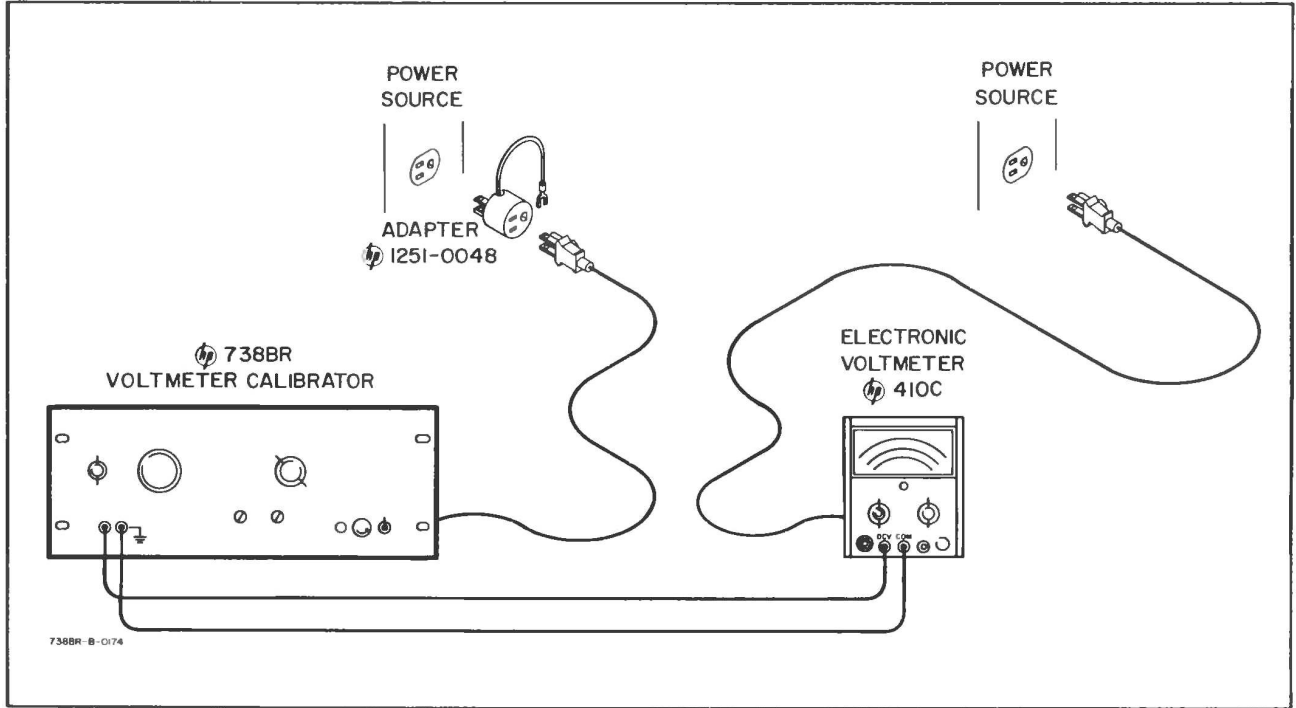

Figure 3-3. Connection for Eliminating Ground Current
the 738BR. The Φ Part Number for this adapter connector is 1251-0048. The instrument under test must be connected to power ground. (See Figure 3-3.)
- a. Connect the OUTPUT of the 738BR to the meter to be calibrated. (Connect as in Figure 3-3.)